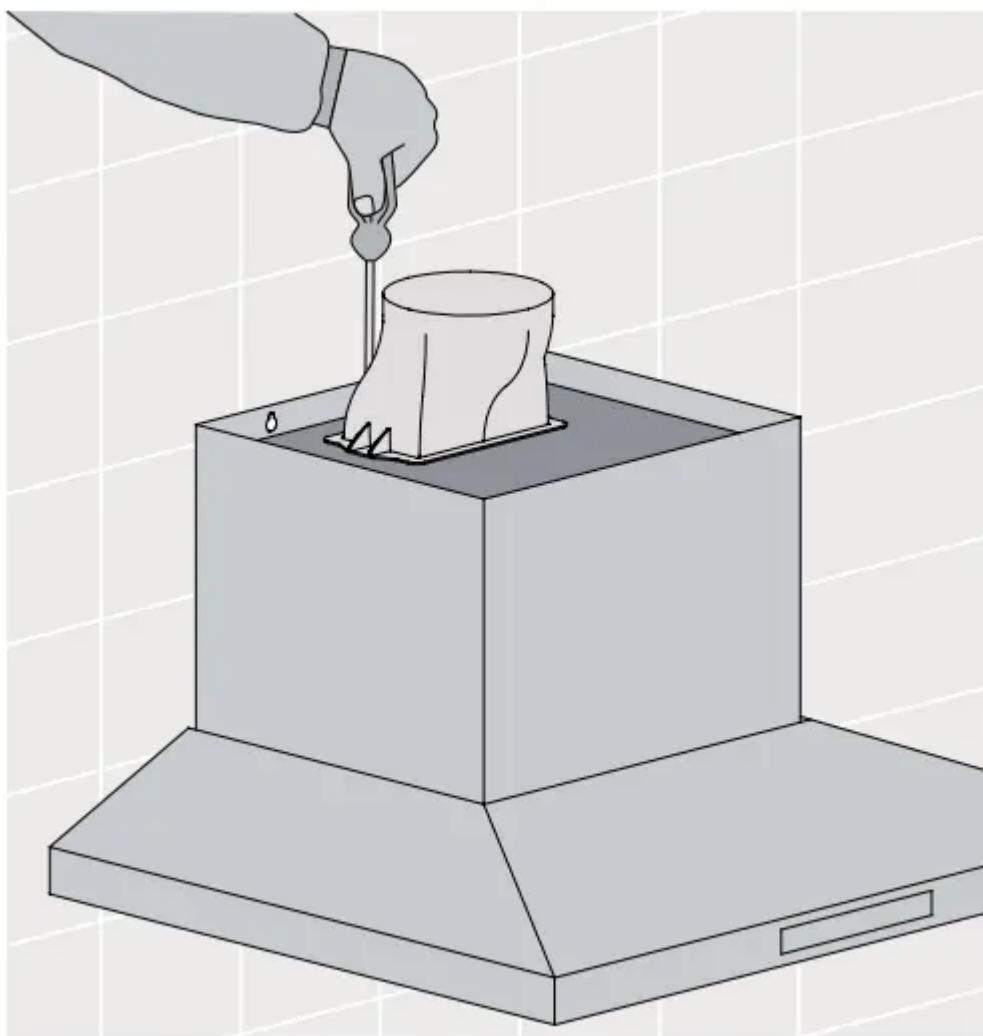

Fig. 8
**Step 4.** Fix exhaust transition duct using screws supplied (Fig. 8)